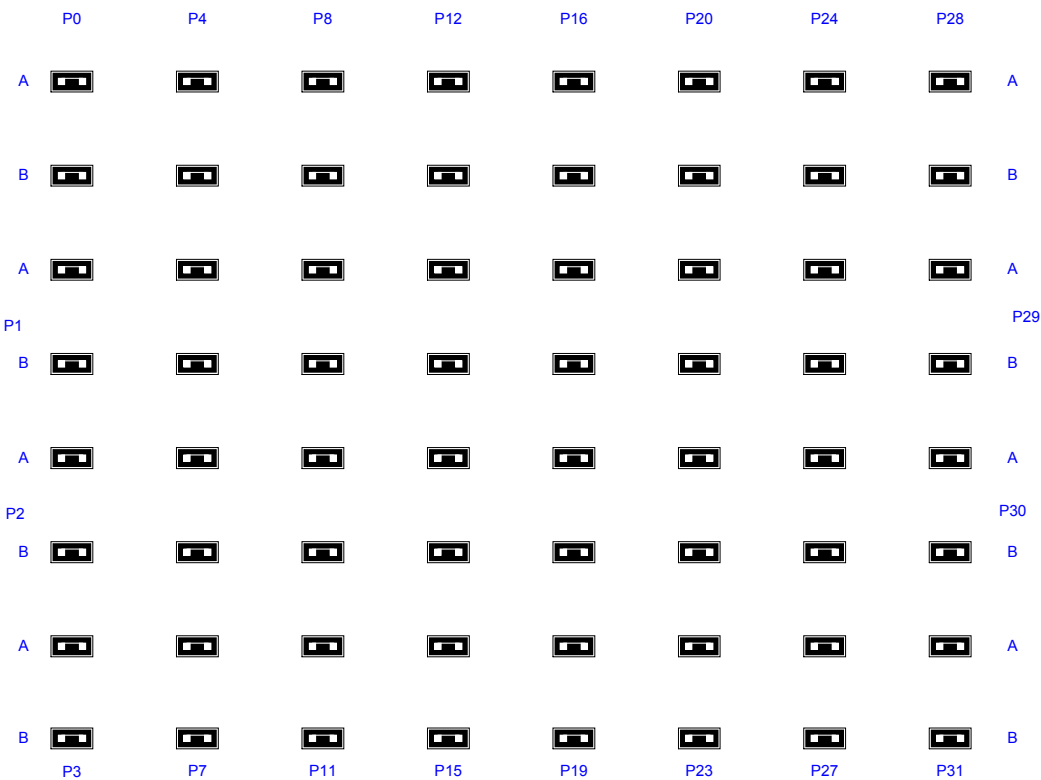

FIGURE 2-15. Main Board Assembly – Port 0-31 Termination Shunt Arrangement
5. The left array of shunts supports matrix data ports 0-31 and is shown in greater detail in Figure 2-15. Note that the shunts are arranged in a rectangular array of eight columns of four ports each, and eight rows accommodating the A and B pairs for the four ports per column.